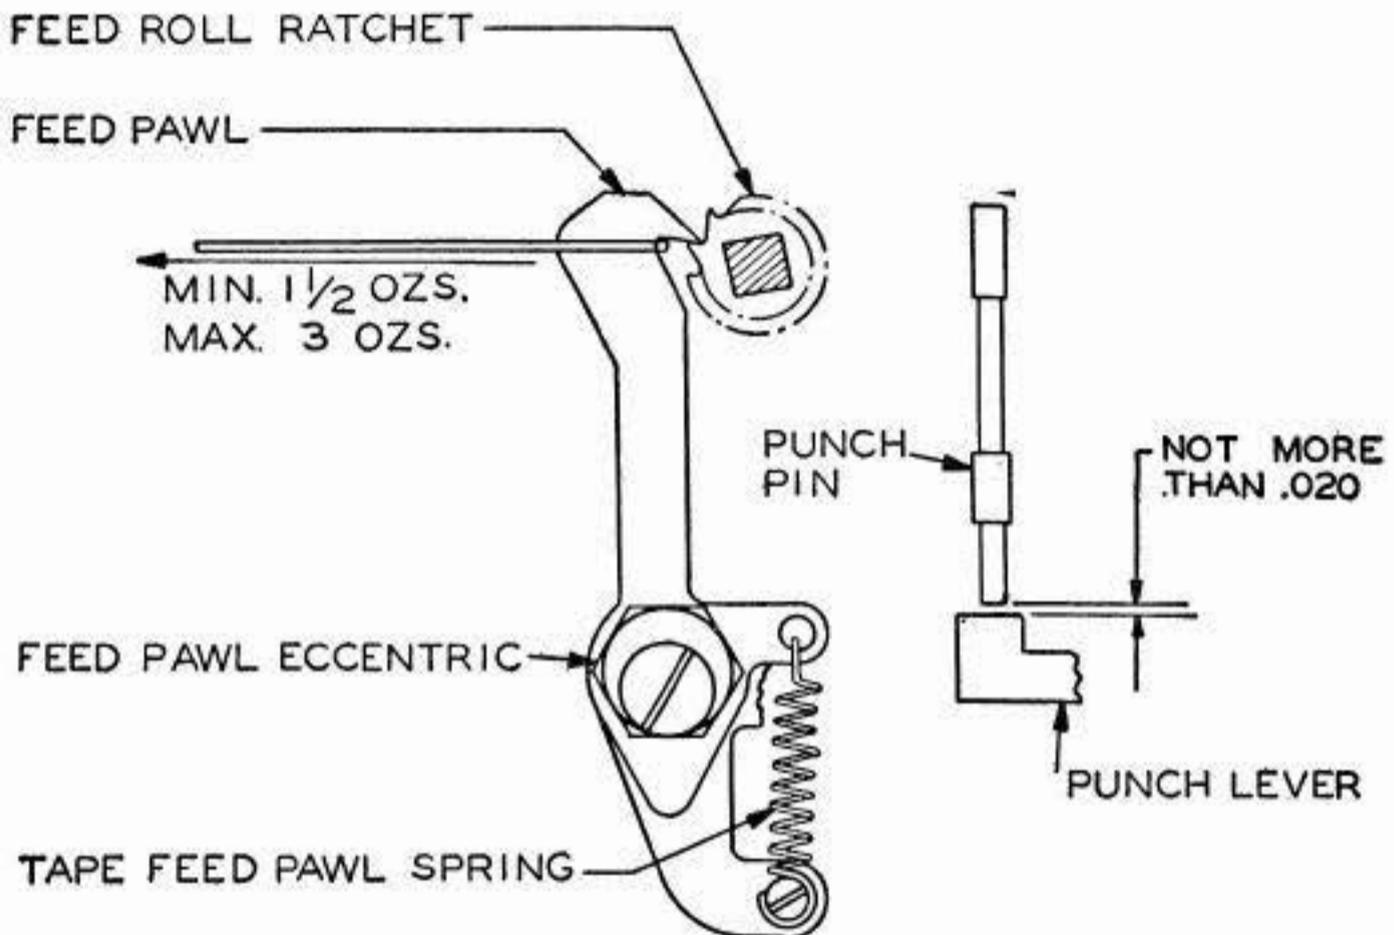

Fig. 10
2.23 The **feed pawl** should engage the next feed-roll ratchet tooth when the main shaft has been rotated until the selected punch levers clear the punch pins as indicated in Fig. 10 **Fig. 10**
2.24 **Feed-Pawl Spring.** It should require a pull as indicated in Fig. 10 to start the feed pawl moving. **Fig. 10**